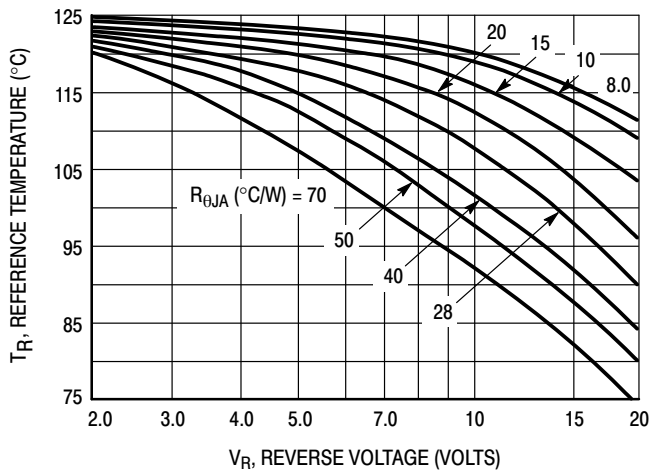

Figure 1. Maximum Reference Temperature
Figures 1, 2, and 3 permit easier use of equation (1) by taking reverse power dissipation and thermal runaway into consideration. The figures solve for a reference temperature as determined by equation (2).
Inspection of equations (2) and (3) reveals that  $T_R$  is the ambient temperature at which thermal runaway occurs or where  $T_J = 125^\circ\text{C}$ , when forward power is zero. The transition from one boundary condition to the other is evident on the curves of Figures 1, 2, and 3 as a difference in the rate of change of the slope in the vicinity of  $115^\circ\text{C}$ . The data of Figures 1, 2, and 3 is based upon dc conditions. For